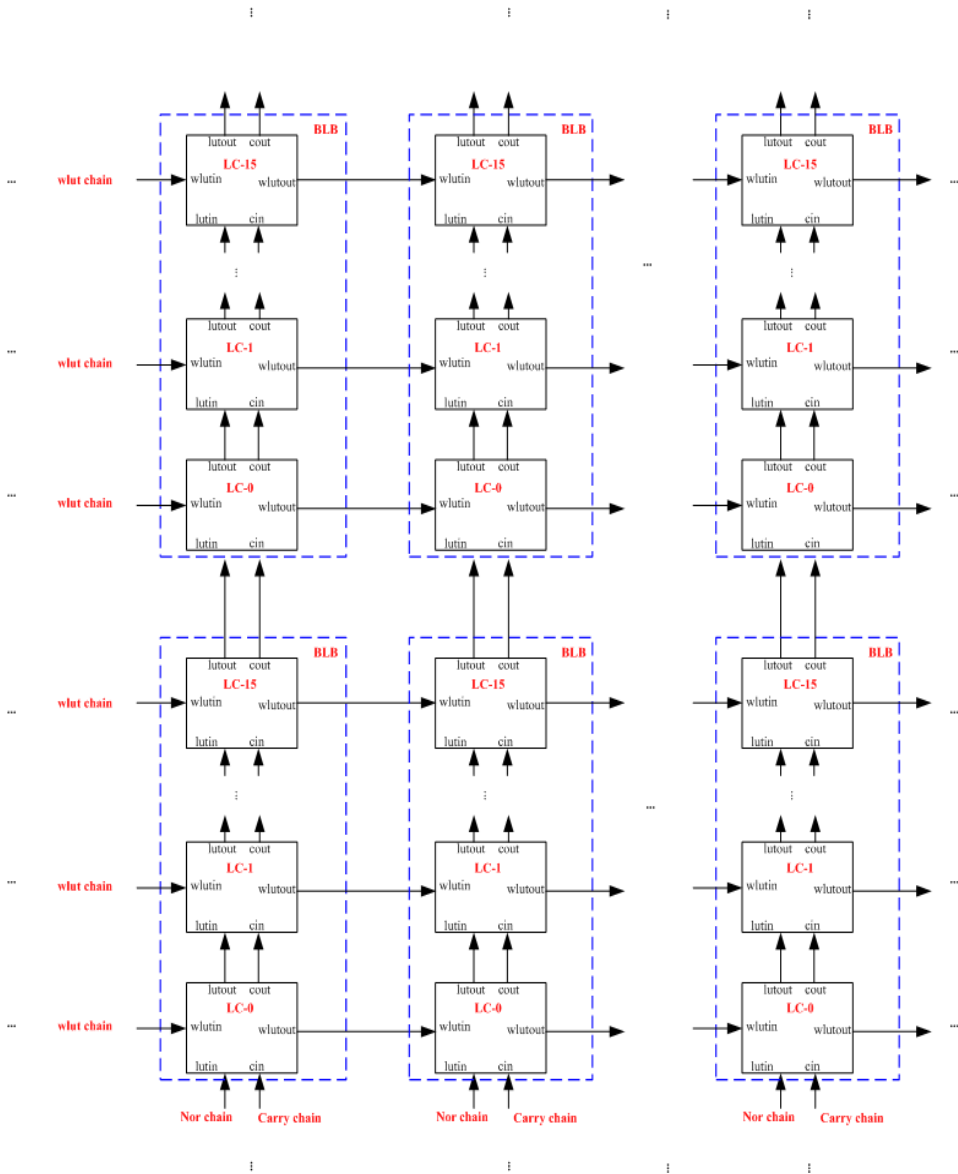

Figure 2.2.2 Carry Chain, Nor chain and WLUT chain
The carry chains are cascaded together through the carry chain input (CI) and carry chain output (CO) signals. The Nor chain are cascaded together through *lutin* and *lutout*; The WLUT chain are cascaded together through *wlutin* and *wlutout*. **Figure 2.2.2** shows the cascading of LCs.